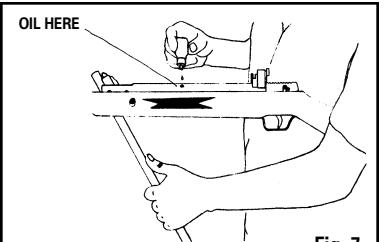

Fig. 7
- Your air rifle will work best if you oil it every 200 shots, where indicated (Fig. 7), with two drops of a silicone-based chamber oil made specifically for spring airgun use. DO NOT any other type of oil and DO NOT over-oil as this can cause damage to your air rifle. To protect the outside finish of your air rifle, apply a few of drops of oil and polish the entire surface with a flannel cloth.